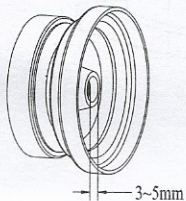

Fig.1
1) Loose the fix screw of the upper wheel, and move the wheel out 3~5mm, not screw down(See Fig.1).